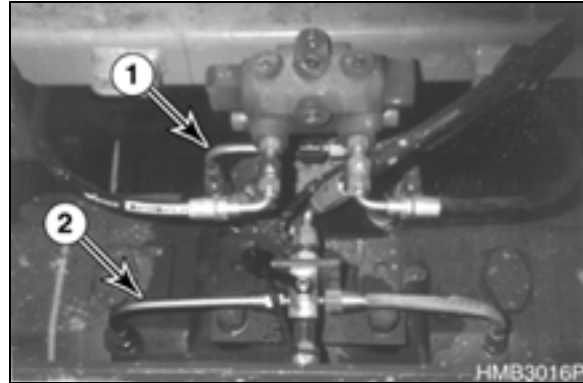

Figure 82
1. Replace pipes that carry brake fluid to wheel brakes i.e., service brake pipe (1, Figure 82) parking brake pipe (2). Also replace hoses that carry hydraulic fluid to steering cylinders.